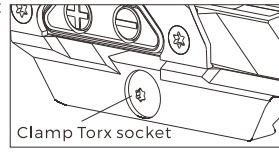

Fig 5
- 1) There is one Torx socket at the end of clamp adjusting bolt on the side of the mount. (See Fig 5) Before installation, loosen the bolt to loosen the clamp using the included Torx wrench.